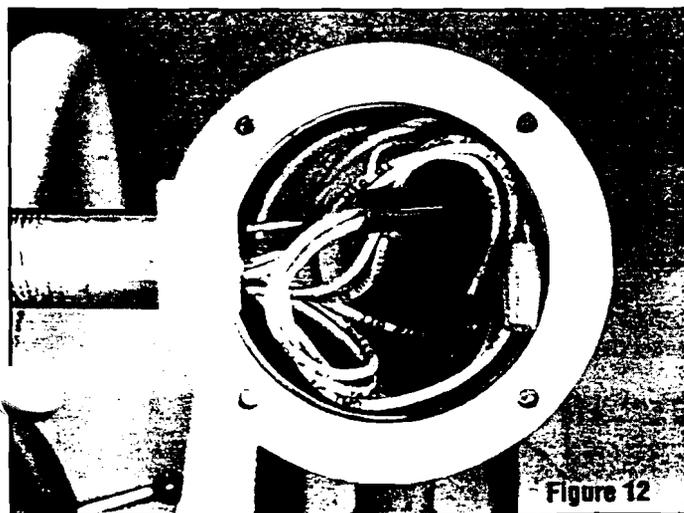

Figure 12
- b. (Units with motor splice box) Remove 4 bolts and cover of motor splice box (See Figure 12).